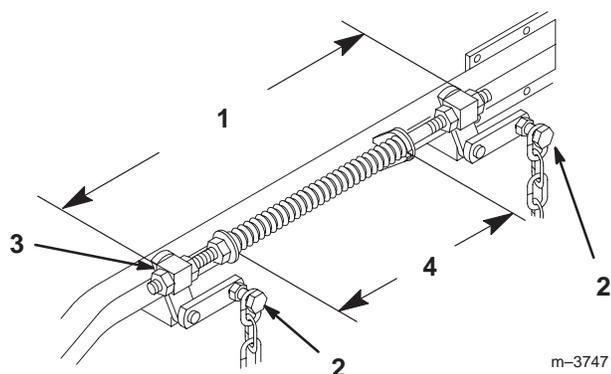

Figure 56
- Loosen the 4 top chain bolts in the slots. Check the length of the rod/swivel assemblies. The distance from the outside of the rear swivel to the outside of the front swivel should be 19-17/32 in. (496 mm) (Fig. 56). Make sure that all four swivels move freely in the holes.
- Adjust the compression springs by turning the front spring nuts so that the distance between the two large washers is 11 in. (279 mm) (Fig. 56). Clockwise will shorten the spring; counterclockwise will lengthen the spring.